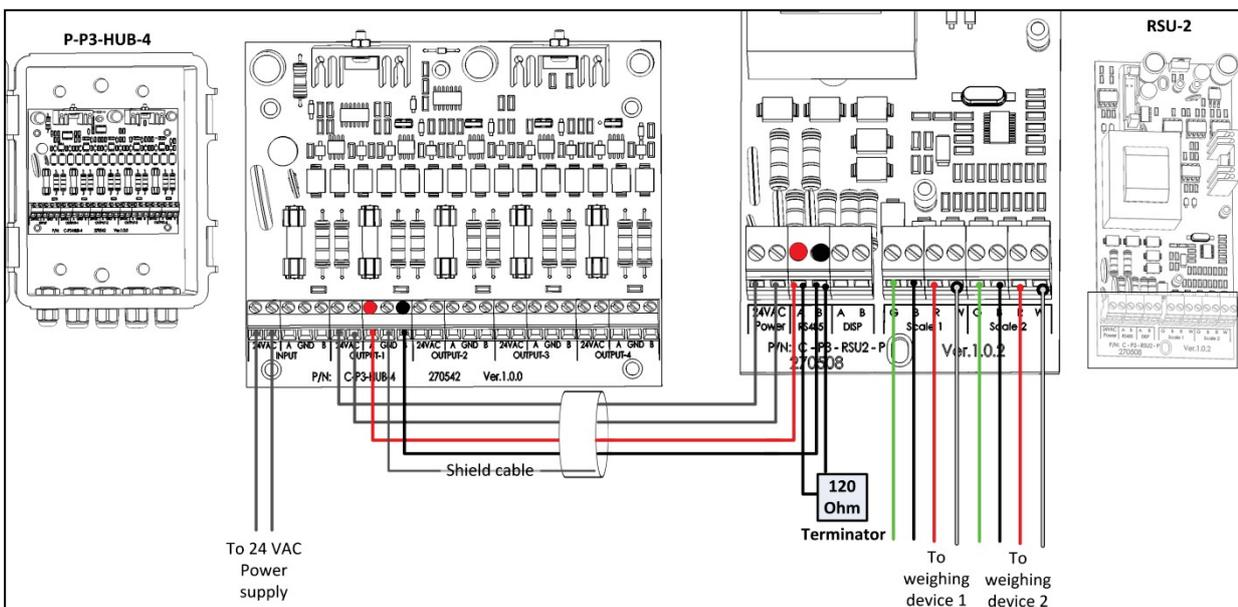

Figure 3: HUB – RSU-2 Pro Wiring
- The HUB-4 unit comes terminated. However the user **must** terminate the final unit in each chain (refer to Figure 3).